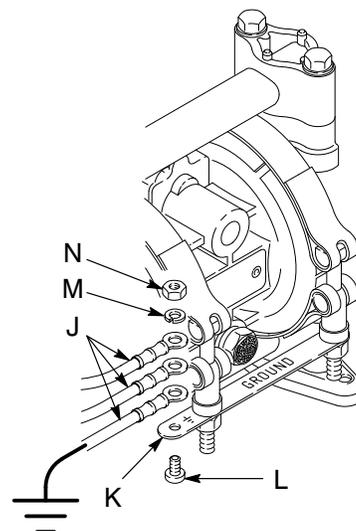
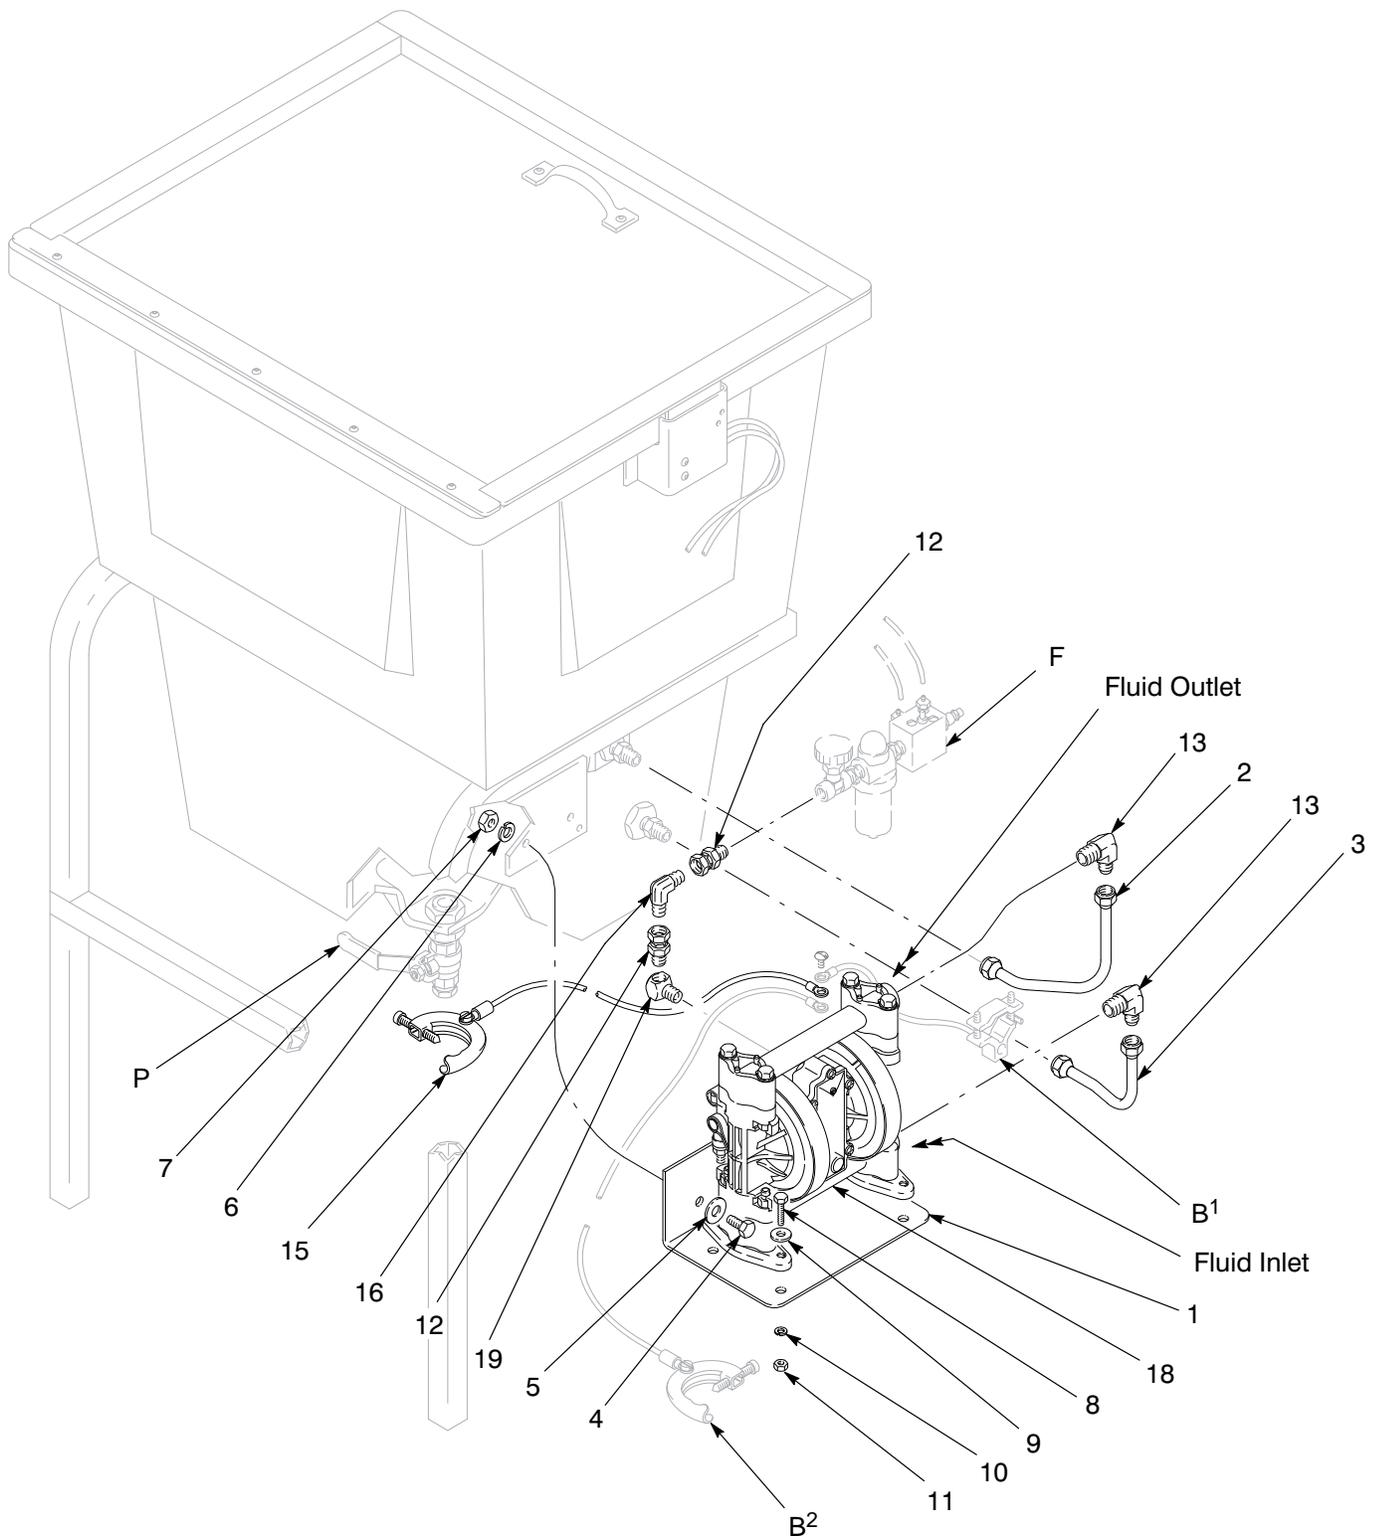
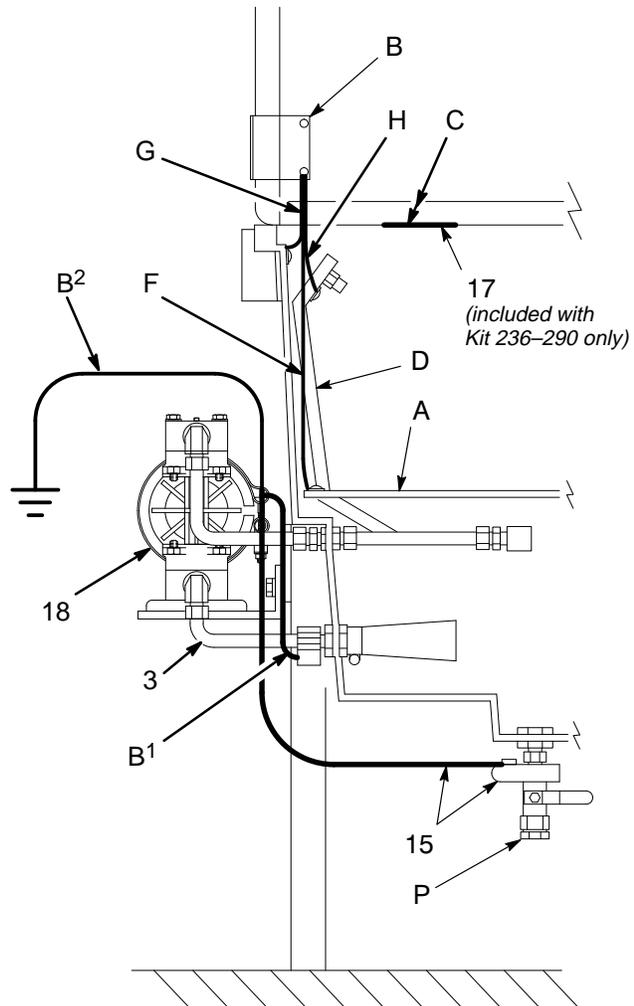

Fig. 5
Fig. 6
Fig. 7
14. Attach the ground clamp (B¹), retained from the Mini-Flo pump removal, to the fluid inlet tube (3) at the side of the tank. (Also refer to Fig. 7, page 10, for placement of the ground clamp.)
15. Attach the ground clamp (15) to the gun washer tank drain valve (P). (Also refer to Fig. 7.)
NOTE: Refer to Fig. 6 to assemble. Only the numbered parts are included with the kit.
1. Mount the bracket (1) securely to the gun washer with two 3/8" bolts, washers, lock washers and nuts (4, 5, 6, & 7).
2. Install the 3/8" npt end of the elbows (13) into the pump fluid outlet and inlet, using pipe thread tape. Position the elbows parallel to the pump body as shown in Fig. 6. Tighten them securely, leaving 3/8" of thread exposed.
3. Install the swivel fitting (12) into the air valve, lubricator, and manifold assembly (F), using pipe thread tape. Tighten it securely.
4. Install the elbow (19) into the pump air inlet, using pipe thread tape. Position the threaded hole in the elbow to face directly upward as shown. Tighten it securely.
5. Install the swivel fitting (12) into the elbow (19), using pipe thread tape. Tighten it securely.
6. Install the adapter (16) into the swivel fitting (12). Position the adapter to face the fluid inlet/outlet side of the pump as shown. Hand tighten it.
7. Assemble the swivel fitting (12), air valve, lubricator, and manifold assembly (F) to the adapter (16), then hand tighten.
8. Connect all three grounding wires (J) to the pump grounding strap (K) as shown in Fig. 5. Use the nuts, washers, and screws (L, M, N) retained from the Mini-Flo removal.
9. Mount the Husky pump (18) on the bracket (1) with the air exhaust facing the gun washer. Use the four 1/4" bolts, washers, lock washers, and nuts (8, 9, 10, & 11) to secure the pump.
10. Position the air valve, lubricator and manifold assembly (F) parallel to the gun washer tank and pump and tighten the swivel fitting (12).
11. Connect the outlet fluid tube (2) between the gun washer fluid inlet and the pump outlet elbow (13). Tighten until snug; do not over tighten.
12. Connect the inlet fluid tube (3) between the gun washer fluid outlet and the pump inlet elbow (13). Tighten until snug; do not over tighten.
13. Attach the ground clamp (B¹), retained from the Mini-Flo pump removal, to the fluid inlet tube (3) at the side of the tank. (Also refer to Fig. 7, page 10, for placement of the ground clamp.)
14. Attach the ground clamp (15) to the gun washer tank drain valve (P). (Also refer to Fig. 7.)
Check the continuity between the gun washer parts listed in the chart below and true earth ground before operating the gun washer and again, after servicing it. Refer to Fig. 7. If electrical continuity is lost, check the grounding connections and reconnect them as needed.